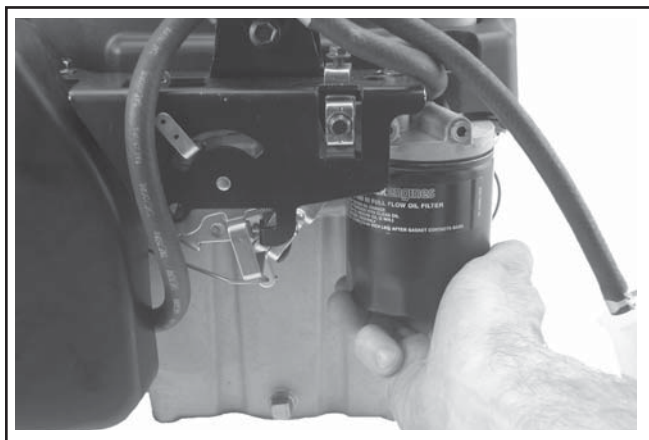

Figure 10-84. Installing Oil Filter.
3. Apply a thin film of clean oil to the rubber gasket on the new filter. Install the new oil filter to the filter adapter or oil cooler. Refer to instructions on the oil filter for proper installation. See Figure 10-84. Fill the crankcase with new oil of the proper type, to the “F” mark on the dipstick.